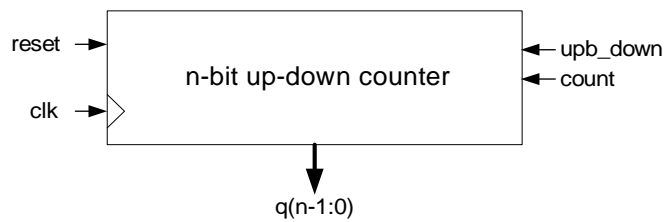

Figure 1 Up/down counter
2.1 Generate the VHDL model of an n -bit up-down counter, with asynchronous *reset*, *count* enable input and *upb_done* control input: if *upb_down* = 0, count up, and if *upb_down* = 1, count down (figure 1):